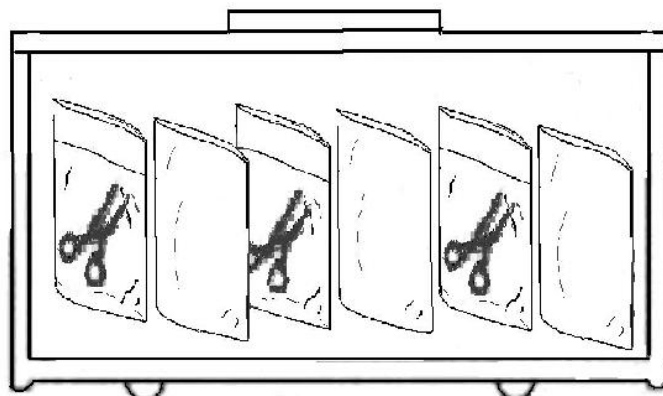

Figure 56
**Warning:** If implements are packed with sterilizing pouches and placed inside a sterilization box, make sure to display items as Figure 56.